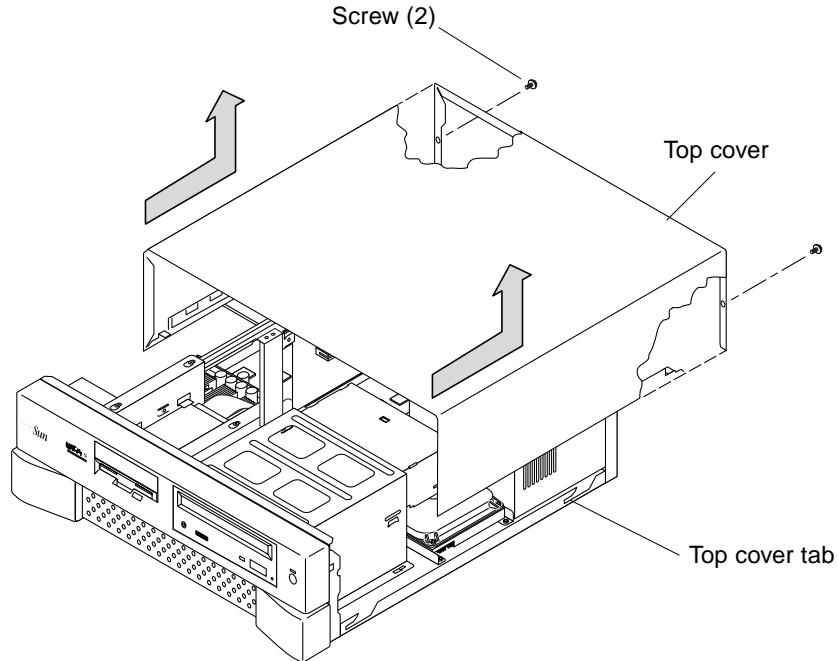

FIGURE 5 Removing the Ultra 5 Top Cover
1. Using a No. 2 Phillips screwdriver, remove the two screws securing the top cover to the chassis (FIGURE 5).